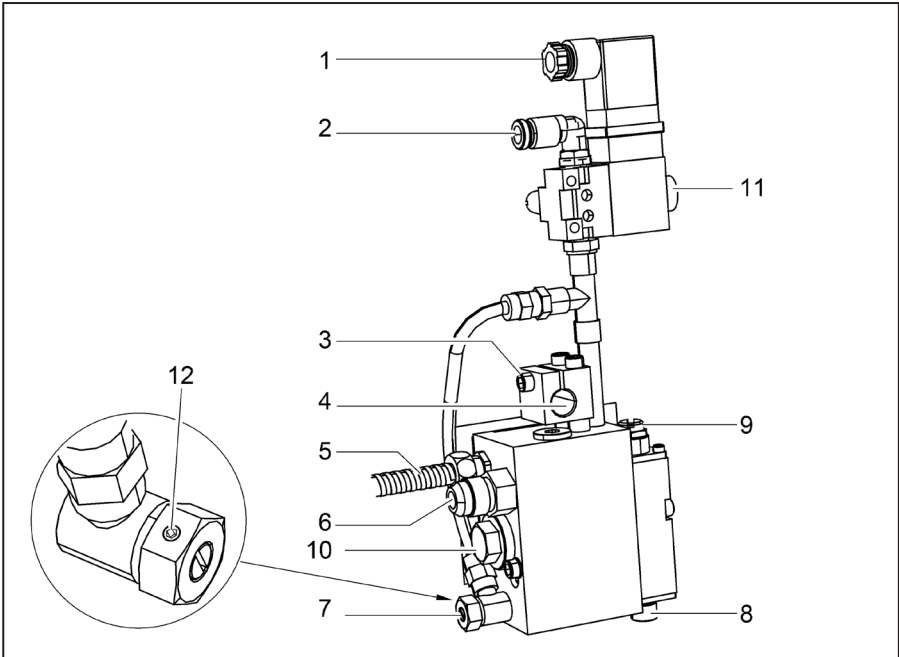

Bild 2: Connections
1. Loosen the screw (fig. 2/3) with the hexagon socket wrench and remove it.
2. Move the opening (fig. 2/4) of the clamp over the mounting rod (12 mm Ø) schieben.
4. Replace and tighten the screw (fig. 2/3).
3. Attach the plug of the solenoid valve control cable (fig. 2/1).
5. Connect the plug-in connector at the end of the cable (fig. 2/5) with the mating plug on the heatable hose.
Connect the compressed air supply line (quick release coupling PK 6) with the connection (fig. 2/2).
3. Screw the heatable hose to the connection (fig. 2/6) with the open-end wrench (SW 17 of SW 19) while using the open-end wrench SW 18 on the application head to lock the screw.
- Loosen lock nut (fig. 2/12) with the 1.5 mm hexagon socket wrench.
- Open the adjusting screw for the spray air volume (fig. 2/7) all the way by turning it to the left (slotted screw).
- Manually trigger solenoid valve (fig. 2/11) so that adhesive is dispensed.
- Fine tune spray air volume with the adjusting screw (fig. 2/7).
- Adjusting screw for the spray air volume (fig. 2/7)
- Nozzle diameter (fig. 2/8)